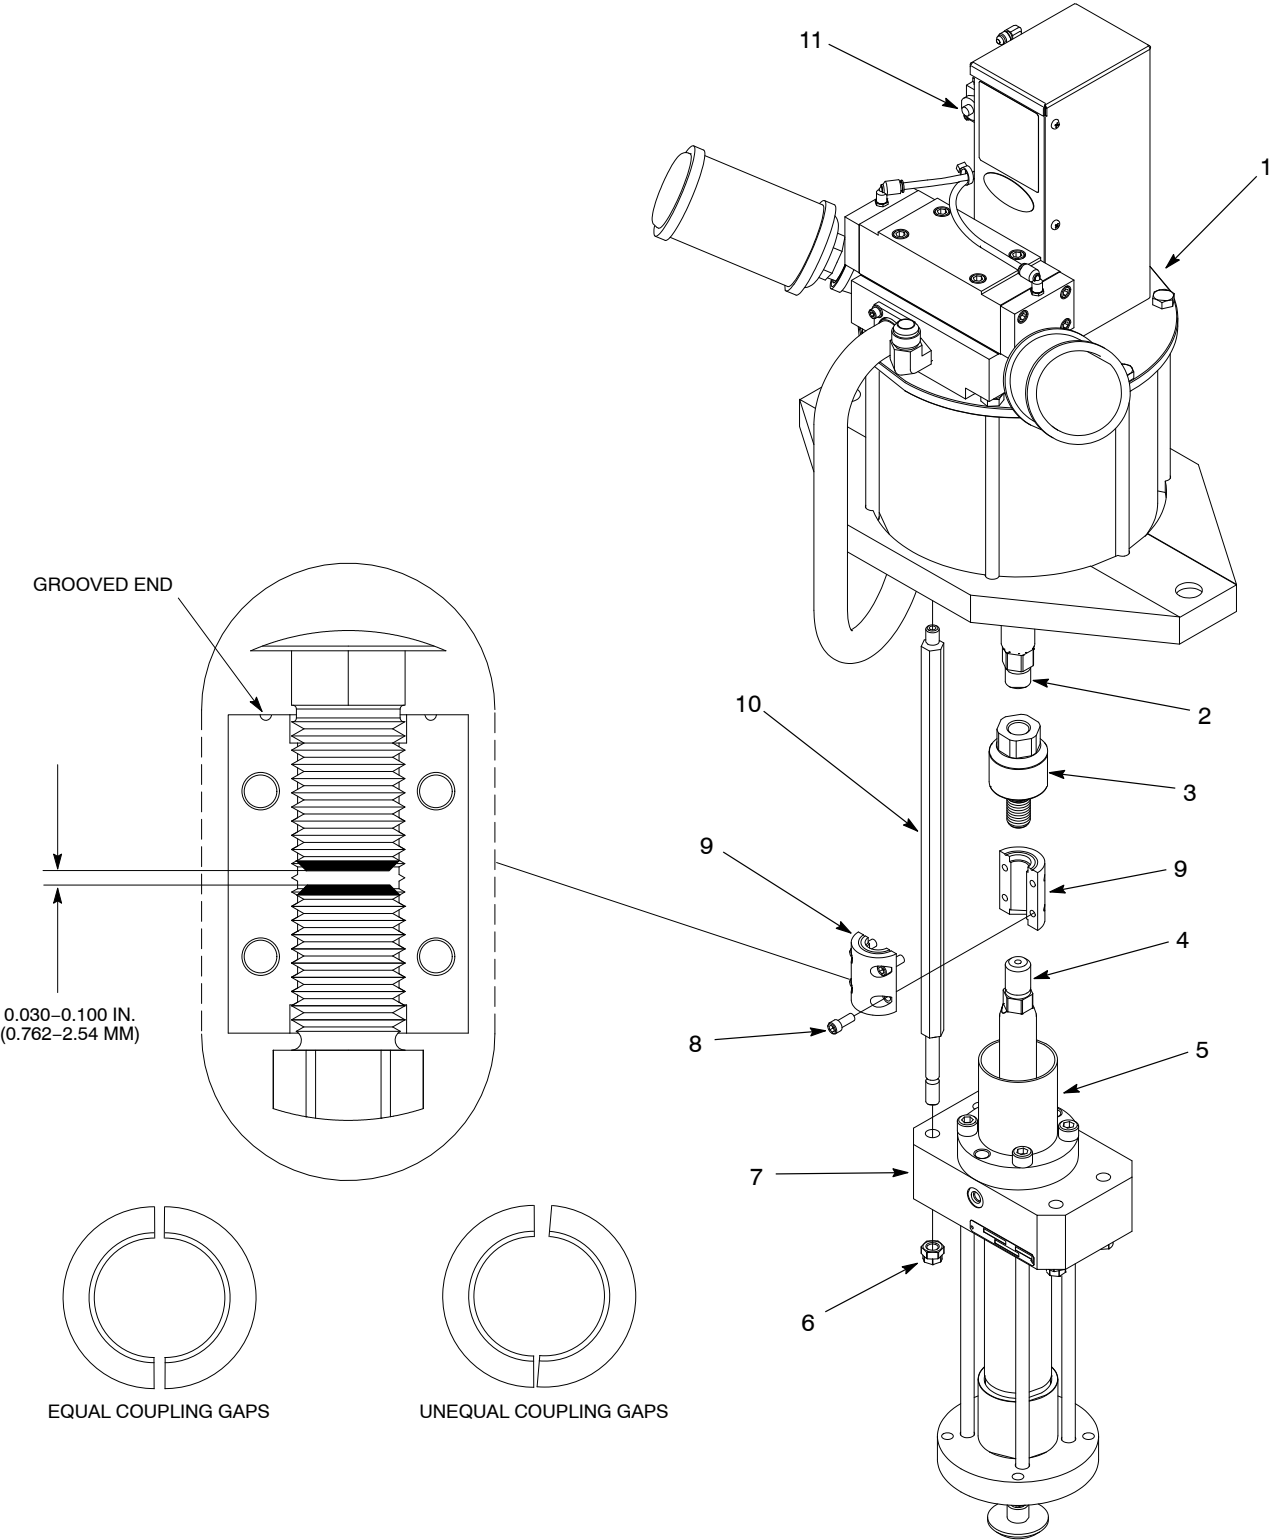

Figure 14 Assembling the Pump
1. See Figure 14. Apply threadlock adhesive to the male threads of the air motor shaft (2). Install the floating coupling shaft (3) onto the air motor shaft and tighten to 200–220 ft-lb (272–298 N•m).
2. Install the connecting rods (10) to the air motor (1) and tighten to 60–65 ft-lb (81.5–88 N•m).
3. Install the hydraulic section (7) onto the connecting rods (10) using the nuts (6). Tighten the nuts to 60–65 ft-lb (81.5–88 N•m).
4. Install the solvent chamber (5) onto the hydraulic section (7).